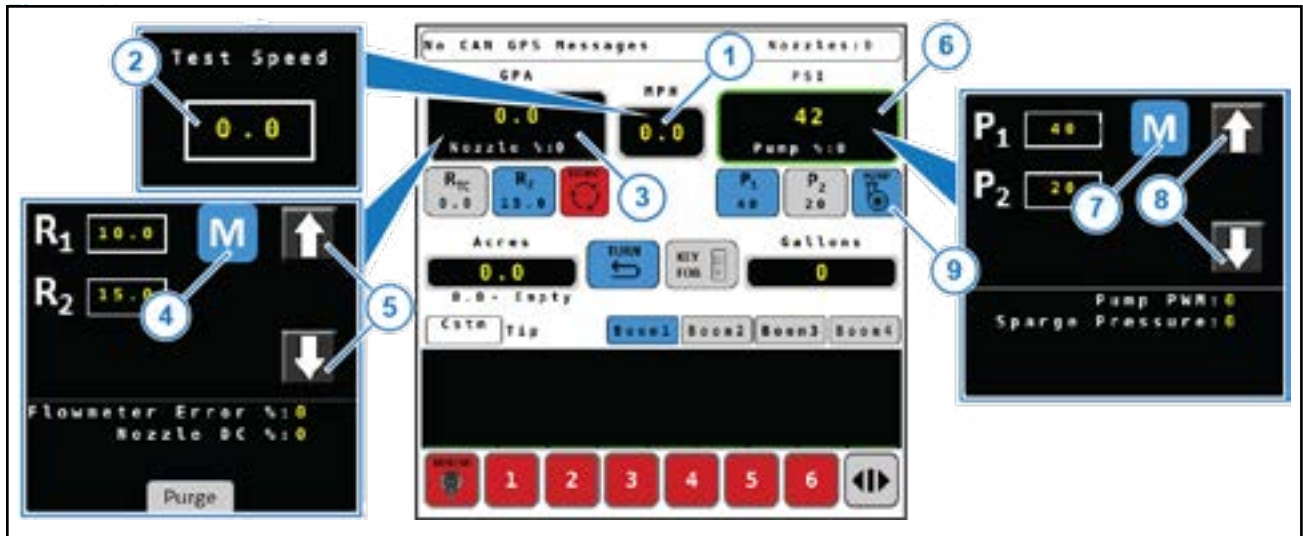

Figure 31: Boom Shutoff Wet Test
5. Select the speed box (Figure 31, Item 1).
6. Set a test speed (Figure 31, Item 2).
7. Select the rate box (Figure 31, Item 3).
8. Select M (Figure 31, Item 4) and then use the arrow icons (Figure 31, Item 5) to change the rate.
10. Select M (Figure 31, Item 7) and then use the arrow icons (Figure 31, Item 8) to change the pressure.
11. Select the Pump icon (Figure 31, Item 9) to turn on pump.